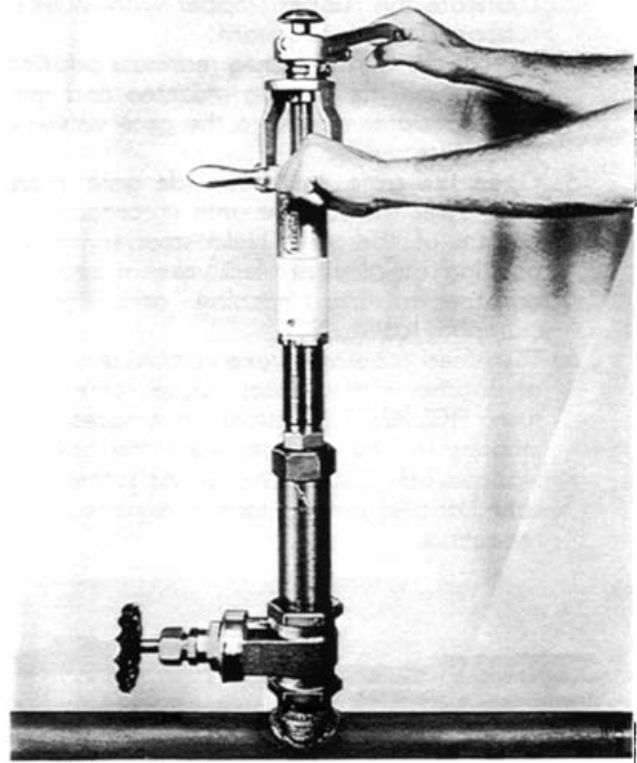

FIGURE 5
9. Using a clockwise rotation, start the cut with a light even feed then a heavier feed and finish the cut with a light even feed. FIGURE 5 (see detailed operating instructions for drilling machine being used).